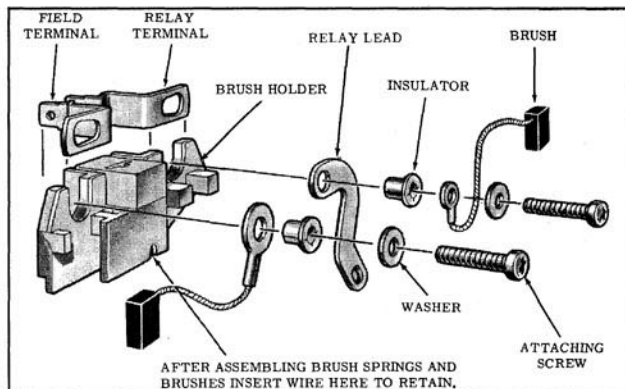

Fig. 13-43 Brush Holder Assembly
4. Assemble the brush holder as shown in Fig. 13-43. Install the brush springs and brushes into the brush holder and retain with a straight piece of wire inserted through the hole in the brush holder.